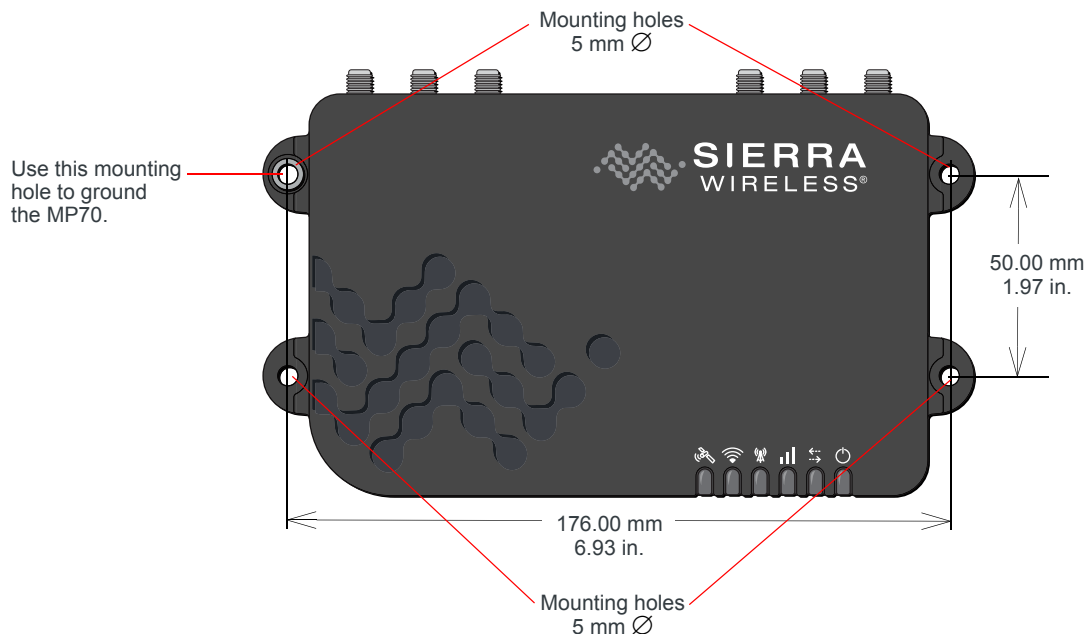

Figure 2-2: Mounting and Grounding the MP70
Sierra Wireless strongly recommends that you always ground the chassis using the unpainted mounting hole shown in Figure 2-2.
The MP70 has 4 mounting holes, as shown in Figure 2-2. Use the mounting screws that came with the MP70 to secure it in place.
- Connect one end of a short 18 AWG or larger gauge wire to the unpainted, upper right mounting hole (see Figure 2-2) and connect the other end to the vehicle chassis.